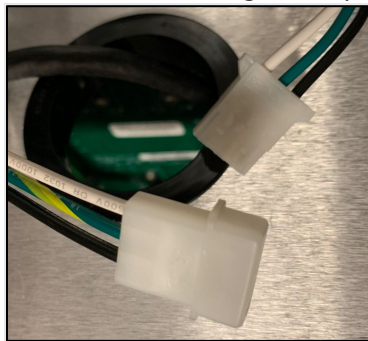

Figure 9 Power cable connector to be Connected to Backplate Power Supply
- 2 Reconnect the power cable connector that connects the backplate power supply to the power conditioner (see Figure 9 page 25).